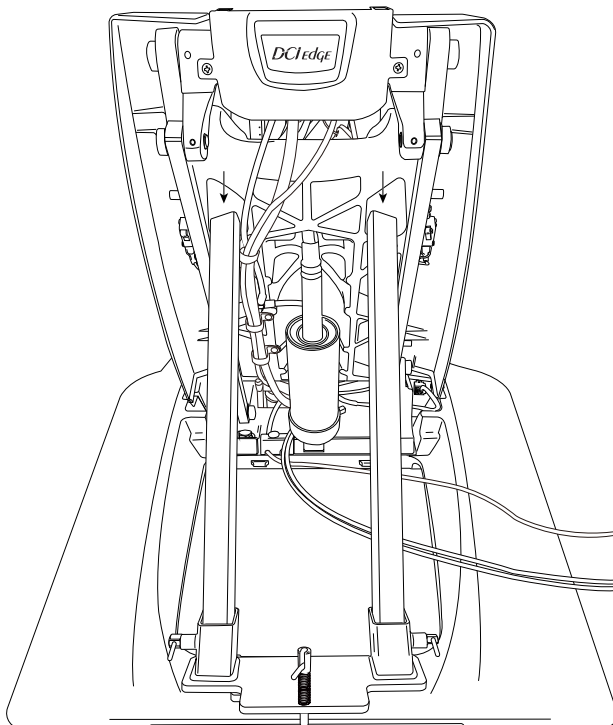

Figure 5. Supporting truss with T49990 bars
- 2 Lower the chair until the upper support bars are fully seated in the truss of the chair (see Figure 5).